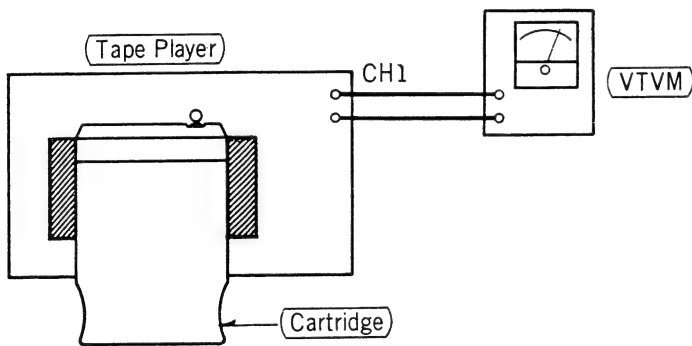

Fig. 15
2. Play the tape and adjust screw (fig. 12) for minimum sound on left channel or connect the equipment as shown in fig. 15.